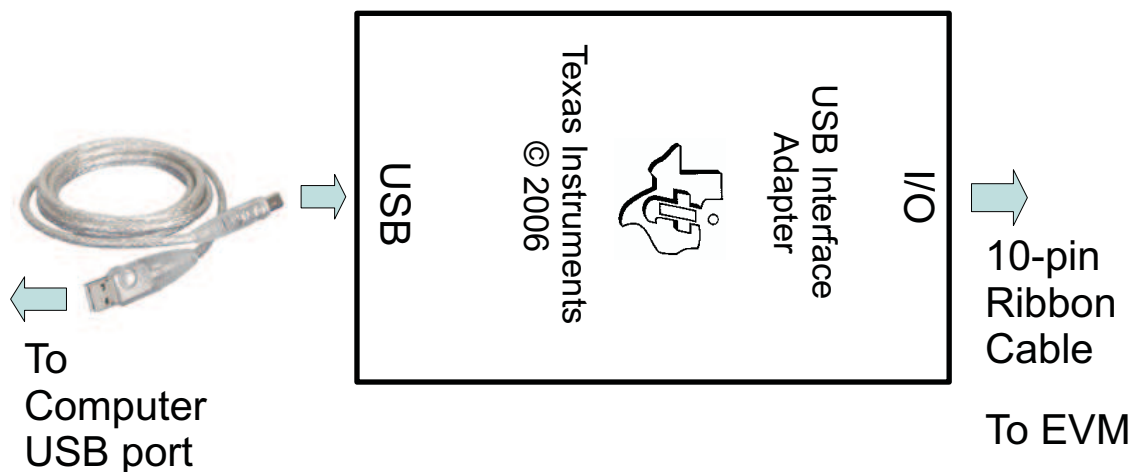

Figure 3. Connections of HPA172 Kit
Because the bq24160, bq24161, and bq24163 have the watchdog timers enabled, it is recommended that you set the software's **Reset Watchdog Timer** to reset every 5 seconds. Otherwise, after 30 seconds of operation, the integrated circuit (IC) enters Default mode. Note that the 27-minute safety timer is not reset by this function and eventually times out if charging does not complete, unless the **Safety Timer Time Limit** is expanded or disabled via the GUI. One way to reset the safety timer is to allow the 30-second watchdog timer to expire. See Figure 3 in the data sheet for more information about the timers.
3. If BAT_Load is the circuit shown in Figure 3, connect Power Supply #2 (PS#2) set to approximately 3.6 V to the input side of BAT_Load, and then turn off PS#2.
7. Connect J17 to HPA172 kit by the 10-pin ribbon cable. Connect the USB port of the HPA172 kit to the USB port of the computer. The connections are shown in Figure 3.